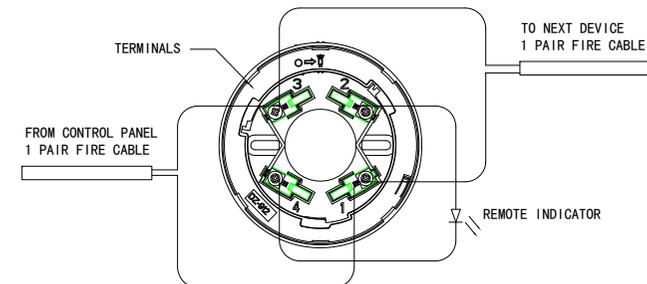

Fig.4
3. Remote Indicator connection: the positive and negative of remote indicator should respectively connect on terminals 2 and 4, as shown in Fig.4.